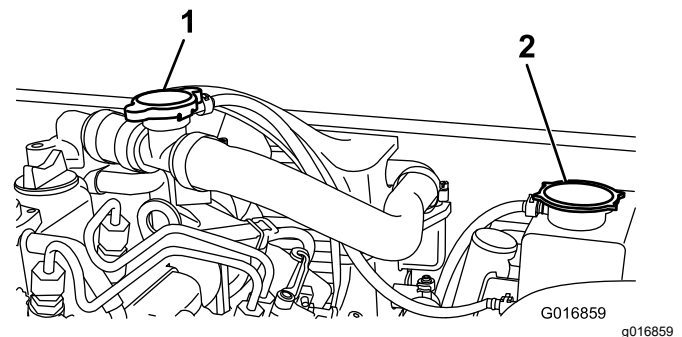

Figure 48
2. Remove the radiator-overflow tank cap (Figure 48).
2. Remove the fill cap (Figure 48) and fill with coolant.
3. Replace the fill cap and remove the radiator-overflow tank cap (Figure 48).